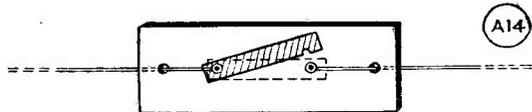

Fig. 3. Patch board or strip connector in series with the radials, for altering their length (see text).
Fig. 3. Mounting of the flywheel for balancing, which can be done experimentally by the method described in the article. Absolutely true running of the flywheel is essential if "wow" and "flutter" are to be avoided on playback.
While obviously dynamic balancing is the best way of correcting the flywheel, the writer was unable to find anyone who could undertake such work. The method illustrated in Fig. 3 was employed and was found satisfactory. The flywheel on its shaft was mounted in two ball races and set up as shown. The circumference of the flywheel was divided off into a number of equal parts, each part being given a reference letter. The flywheel was spun by hand, and when it came to rest a note of the section at the bottom was made. This procedure was repeated several times until the heavy spot was determined, i.e., at the bottom. With a hand-drill part of the heavy spot on the flywheel was drilled out, and the process
The overall length of each radial (which is preferably of 14 SWG enamelled copper wire) from insulator to O BA lug is 33ft. 10ins. At 8ft. 6ins. and 17ft. from the lug, patch boards are inserted (see Fig. 3). The patch boards should be opened according to the frequency,
followed as closely as possible from Fig 3, and a certain amount of trimming of the coil and adjustment of coupling is advisable to ensure best results.
- L4 = Each side 1-1/3rd. turns, ¼in. i.d. (See dimensions given in Fig. 3).
(T4) Fig. 3. shows the dimensions of L4, in the grid of V4, in detail; slight bending will be necessary to obtain resonance. (T5) Fig. 4. is the circuit of the RF indicator, coupled to the output end of the Exciter, which enables the unit to be tuned for full output without the need for intermediate meter indications. The pick-up between the indicator and the tank coil L5 should be adjusted so that readings are obtained within the range of the microammeter.